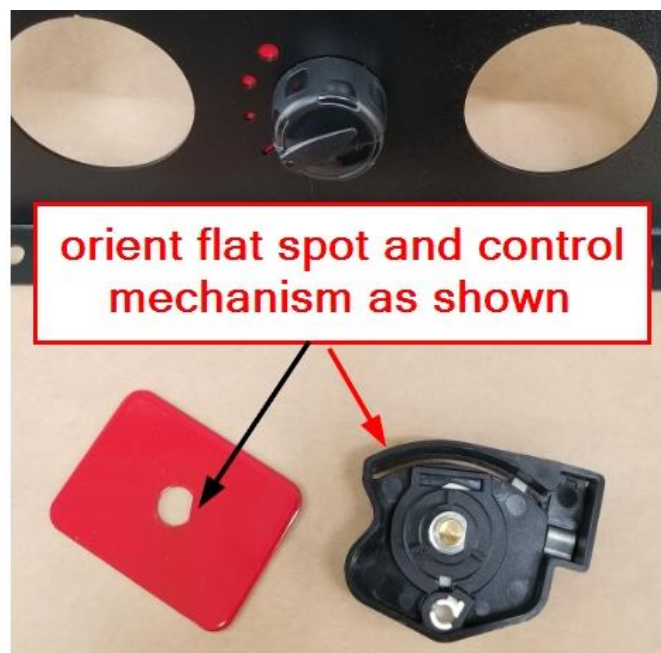
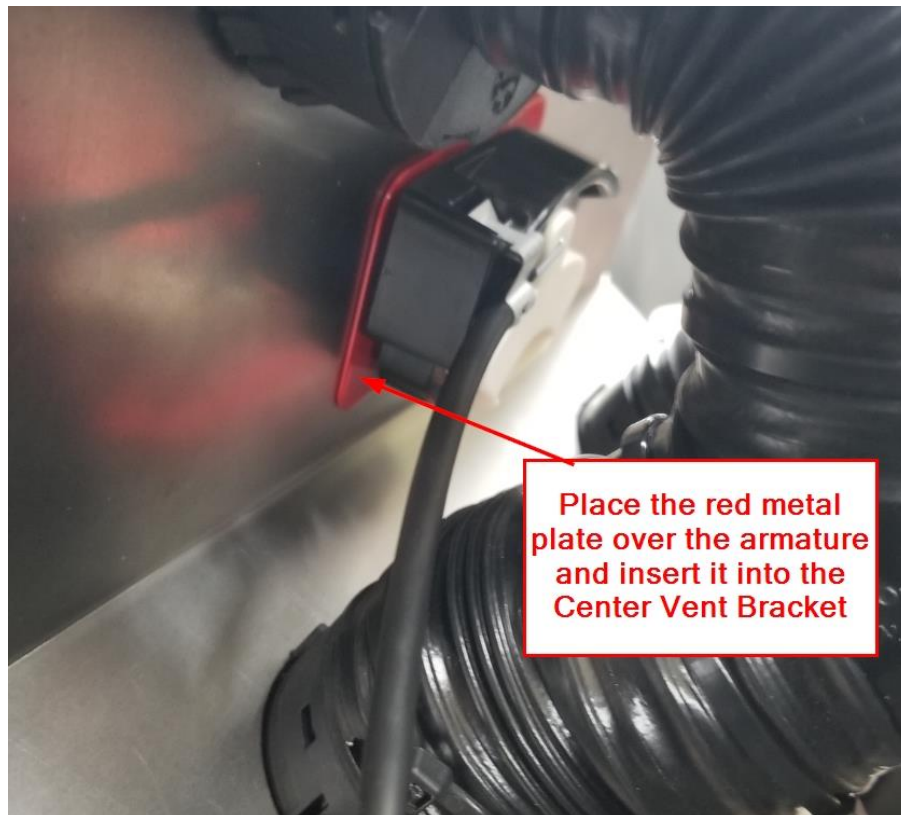

Figure 14
Figure 19
- l. With the Heat Control Mechanism attached to the cable, route the mechanism between the 2" duct hose as shown in Figure 19. Refer to Figure 14 to orient the Heat Control Mechanism and the Flat Spot on the red metal plate. Note: There is no need to use a 7/16" Flat washer on this assembly. Secure using the remaining low profile hex nut.